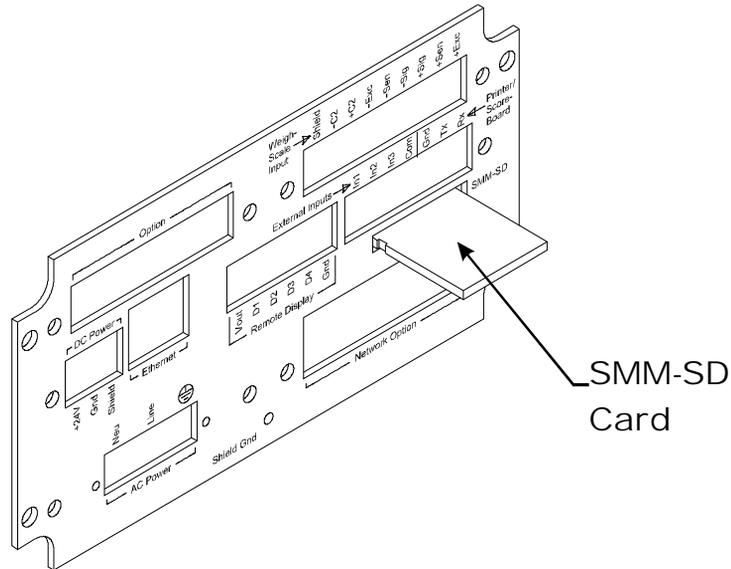

FIG. 16 INSTALLING THE SMM-SD CARD
Step 1. Slide the SMM-SD Card into the SMM-SD Slot on the rear panel. (See Fig. 16)